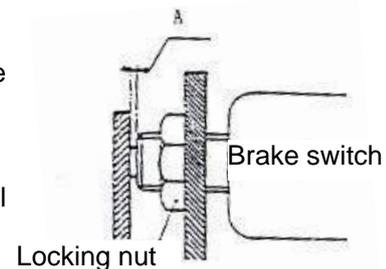

Fig. 2-34 Brake Lamp Switch
- (5) Adjust the brake switch (see Fig. 2-34).